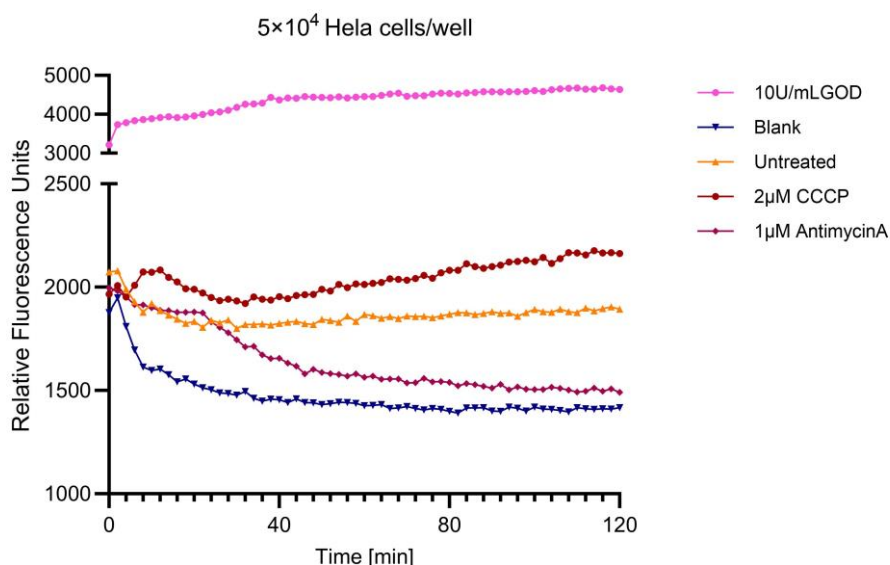

Figure 1. Kinetic Curve of Extracellular Oxygen Consumption in HeLa Cells.
6. Calculate the average of the fluorescence readings for duplicate wells in each group, and plot a curve with fluorescence values on the y-axis and time (min) on the x-axis, as shown in Figure 1.